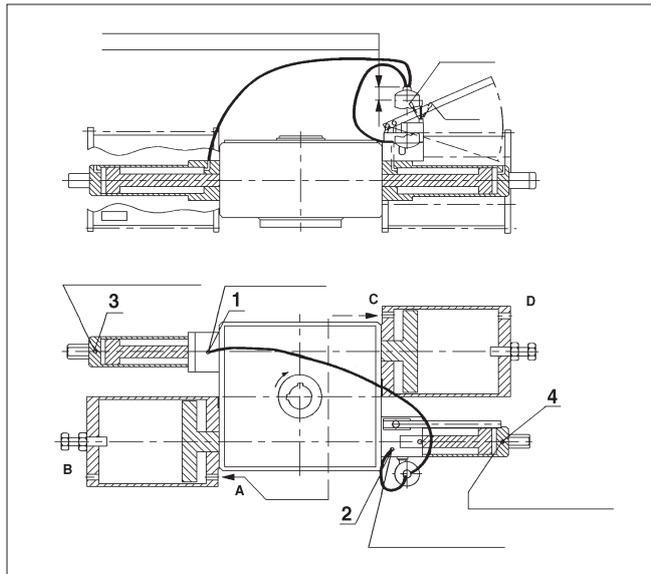

Fig. 23 Valve is open, operation to closed position
If one cylinder is not powerful enough to operate the valve, two cylinders must be used through a T-branch; the pressure is connected as shown in Figs. 23 and 24.
- Remove oil reservoir air filter (3) and fill reservoir with Esso Univis HVI26 or Shell S-9603 oil. The maximum oil volume of the entire system is 25 litres, the stroke volume of the actuator shaft plus movement (valve to close) is 8.6 litres and that of the minus movement (valve to open) 6.5 litres. The volume of the reservoir is about 7.2 litres.
- Connect pneumatic supply as in Fig. 23 (valve closes). This will cause oil to enter the actuator cylinder. Stop after 60-70° shaft turn and add oil to fill reservoir. Operate the valve to closed position.
- Connect bleed hoses (Ø8/5 mm) shown in Fig. 23 from bleed screws 3 and 4 to reservoir and open screws about 20-30°. The hoses must be at the bottom of the reservoir below the oil surface.
- Connect pneumatic supply as in Fig. 23. Operate valve in open direction about 60-70° and fill reservoir with oil. Continue operating the valve to open position.
- Close bleed screws 3 and 4, connect bleed hoses to points 1 and 2 as in Fig. 23 (or connect four hoses to the reservoir) and open these bleed screws (1 and 2) about 20-30°.
- Connect pneumatic supply as in Fig. 23, stop at about 60-70° and add oil. Operate the valve to closed position.
- Connect bleed hoses to points 1 and 2 as in Fig. 23 and open screws about 20-30°.
- as in Fig. 23 (or connect four hoses to the reservoir) and open these bleed screws (1 and 2) about 20-30°.
- Connect pneumatic hose as in Fig. 23 to operate valve to closed position. Add oil to raise oil level to about 50-70 mm from top of reservoir.
- Connect pneumatic hoses as in Fig. 23 to operate valve to closed position. Add oil to raise oil level to about 50-70 mm from top of reservoir.
- Connect pneumatic hoses as in Fig. 23 to operate actuator to open position.
- Attach reservoir air filter (3).